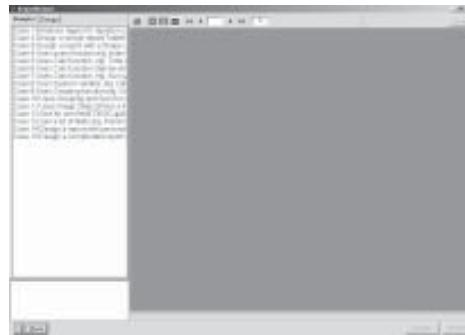

Fig. 8-16 Design the Date and the Page Code
3.4 Design the Report description: For example, as in Fig. 8-16, set the **system variable** as DateTime, PageSetDesc.
4. Preview the Report: Select and click the page key **Preview** as in Fig. 8-16. And the diagram as in Fig. 8-17 will be displayed.